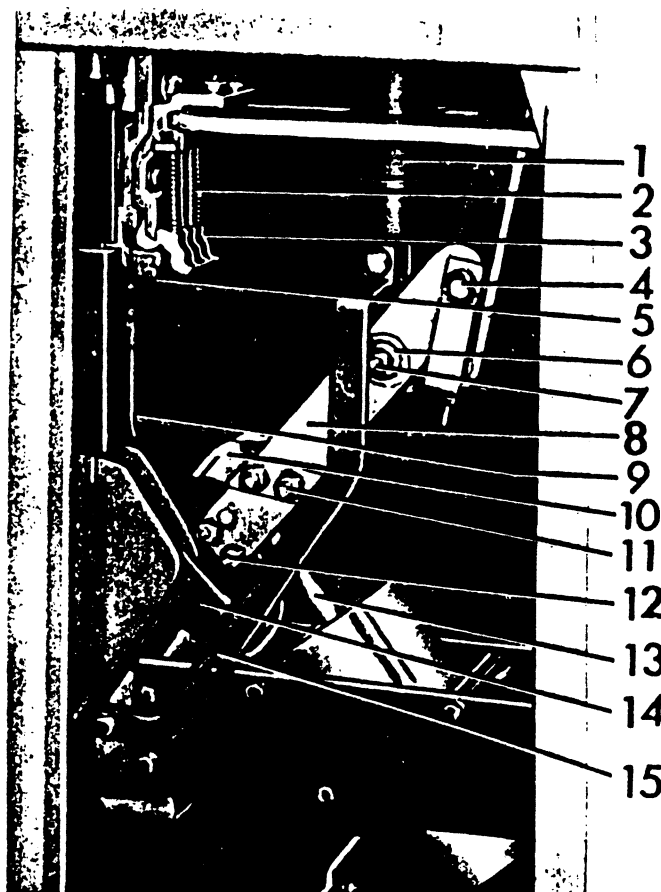

Figure 23. (8038805) Contact Assembly
3. To disassemble braids from stud plate, remove one bolt (5).
4. To disassemble stud plate from contact support, remove two bolts (6).
5. Reassemble in the reverse order, making sure locking plates are properly reassembled with bolts (8).
B. Movable Arcing Contact (14) Figure 23.
1. Remove the assembly bolts (12) making note of quantity and location of shims and spacers used between contacts and contact arms.
3. Close the breaker slowly to check that the movable arcing contact is approximately centered on the stationary arcing contact and that it does not rub on either side of the throat barrier (9).
D. Movable Primary Contacts (10) Figure 23.
1. Disassemble operating rod pin (4), first noting quantity and location of washers in the assembly.
2. Pry contact arms (8) apart enough to disengage pivot pins of piston assembly (13) allowing piston to drop down into its booster cylinder.
3. Rotate the two parts of the contact arm assembly away from each other so assembly bolts (11) are accessible and movable primary contacts (10) can be removed.
E. Contact Arm Assembly (8, 10, 13, 14 Figure 23).
1. Remove connection bar (15).
2. Disassemble hinge pin (7), cup bearing (6), and operating rod pin (4) noting quantity and location of any washers and spacers used in assemblies.
3. The contact arm assembly including the piston assembly (13) can now be removed.
4. When reassembling, first insert piston tube assembly (13) into the booster cylinder and reassemble the cup bearing, making sure the silvered contact washers between the bushing and contact arms (both sides) are in place.
5. Reassemble operating rod pin (4) and connection bar (15).
3. Remove the connection bar (15) Figure 23, cup bearing (6) and hinge pin (7).
5. When reassembling, first mount the bushing and assemble the cup bearing (6), contact arm (8), and replace pin (7) being sure the silvered contact washers between the bushing and contact arms are in place. The contact surfaces at the hinge point of the contact blade and bushing should have a thin coating of D50H47 grease.